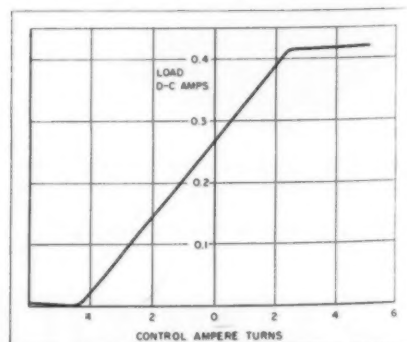

Fig. 4 — Control characteristic of high-gain type magnetic amplifier with nickel-alloy core
**Control Characteristics:** The control characteristics of a magnetic amplifier built with a wound gapless, nickel-alloy core are shown in Fig. 4. The core hysteresis characteristic of this toroidal type reactor is rectangular in shape. Thus, the control characteristic has a wide linear range and a small amount of dc control ampere-turns controls the output from minimum to maximum. The minimum output current or cut-off current is